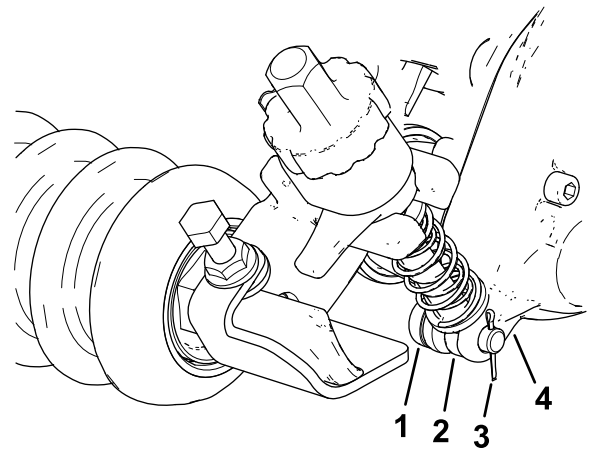

Figure 11
2. On the groomer box side, slide the adjuster-arm rod of the HOC bracket into the gap on the groomer drive box and secure it with an adjuster pin and cotter pin as shown in Figure 11.